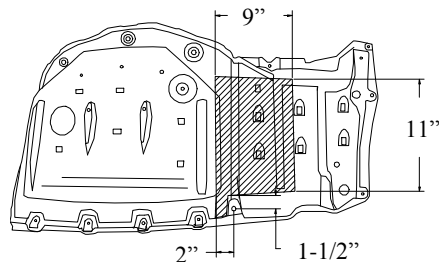

Figure 3
- Remove appearance panel if the panel covers the drivers side frame rails. Trim or remove panel as shown, obtain Vehicle Owner's approval before trimming. Note: if panel is not reinstalled there will be a 3/4"-1" gap between hitch and fascia. See Figure 3.
- Using the hitch as a template mark and center punch the (2) holes on both sides. Drill 1/2" pilot hole both sides.